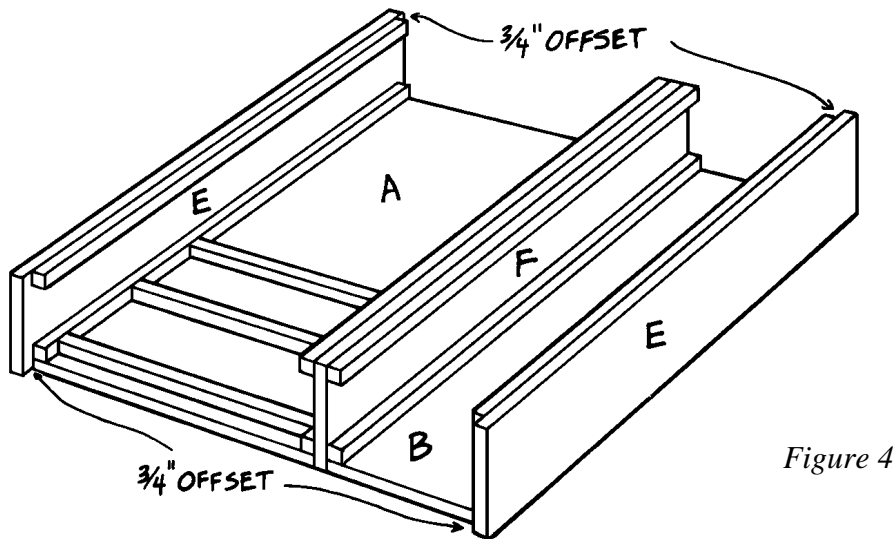

Figure 4
7. Place the inner divider (F) along the edge of the wide back assembly, facing its offset inner vertical support (C) away from the wide back (A), as shown in *Figure 4*. Glue the inner divider (F) and wide back assembly together. Then insert 2" screws at an angle through the bottom  $\frac{3}{4}$ " wide offset on the inner divider (F) and into the inner vertical support (C) that is attached to the wide back (A). Space the screws about 4" apart.
8. Fit the narrow back (B) underneath the offset inner vertical support (C) on the inner divider (F), as shown in *Figure 4*. Glue the narrow back in place and insert 1-1/4" screws, spaced about 4" apart through the inner vertical support (C) on the inner divider (F) and into the narrow back (B).
9. Center one side (E) on the wide back (A), leaving a  $\frac{3}{4}$ " gap at each end, as shown in *Figure 4*. Glue the side (E) in place and insert screws, spaced about 4" apart, through the side (E) to attach it alternately to both the inner vertical support (C) and to the edge of the wide back (A). Use 2" screws to attach it to the wide back (A) and 1-1/4" screws to attach it to the inner vertical support (C).
10. Center the remaining side (E) along the edge of the narrow back (B), leaving a  $\frac{3}{4}$ " gap at each end, as shown in *Figure 4*. Glue the side in place and secure with screws, just as you secured the side (E) in Step 9.